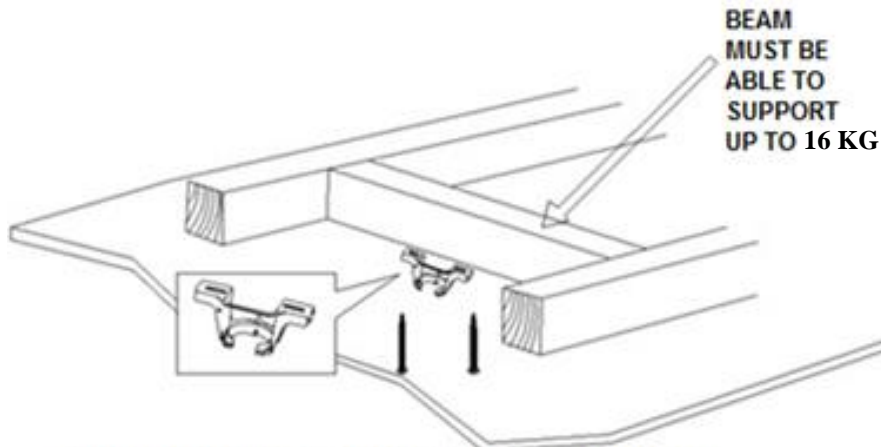

Fig. 3
- Install the hanging bracket to the ceiling joist or structure that is capable of carrying a load of at least 16kg, with the two long screws provided. Ensure at least 30mm of the screw is threaded into the support. (Fig. 3)